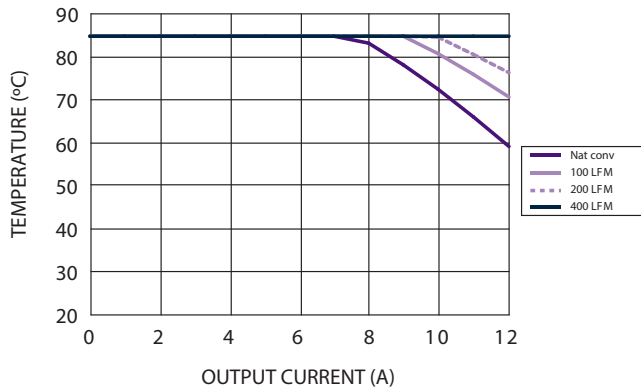
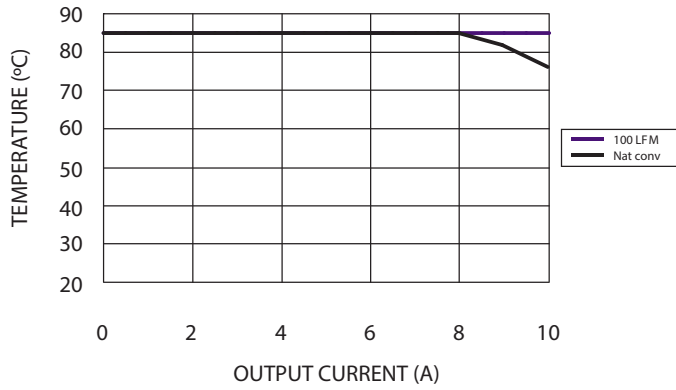

Figure 1 - Safe Operating Area
Figure 6 - Safe Operating Area
- See Figures 1, 2 and 3 for safe operating curves for the PTH12010W and Figures 6 & 7 for the PTH12010L.